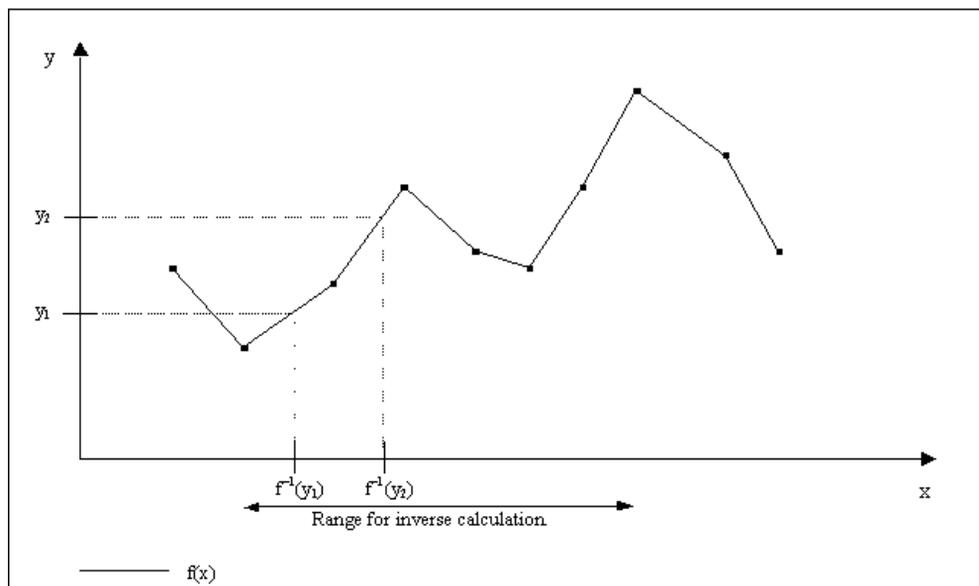

Figure 102. Calculation of the inverse function  $f(x)$
- If the inverse is still not unique, the smallest value is chosen. This is illustrated in Figure 102, which shows the inverse calculation for two different *InInverse* values,  $y_1$  and  $y_2$ . For  $y_1$  there are two possible inverse values. The rightmost is chosen, since the inverse is calculated from the curve between the maximum and minimum values. For  $y_2$ , there are four possible inverse values, three of which are inside the inverse range. The leftmost of these is chosen. If *InInverse* is greater than the maximum defined value of  $y$  or less than the minimum defined value of  $y$ , the inverse calculation is based on using the maximum or minimum value respectively.